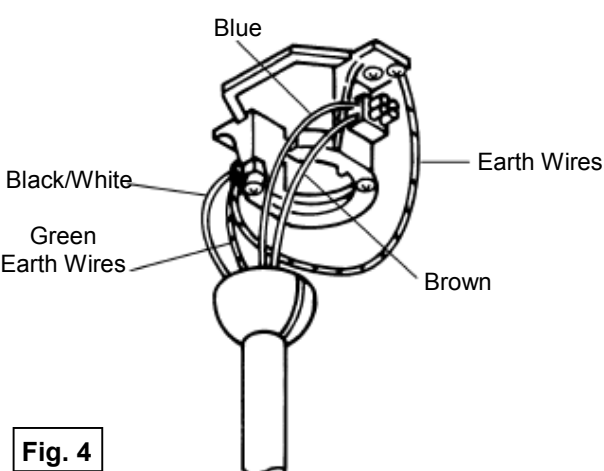

Fig. 4
STEP 4 (Fig 4 & 5)
a) Connect wires from the fan with wires in the ceiling via the terminal block on the hanger bracket refer to figure 4 and 5.